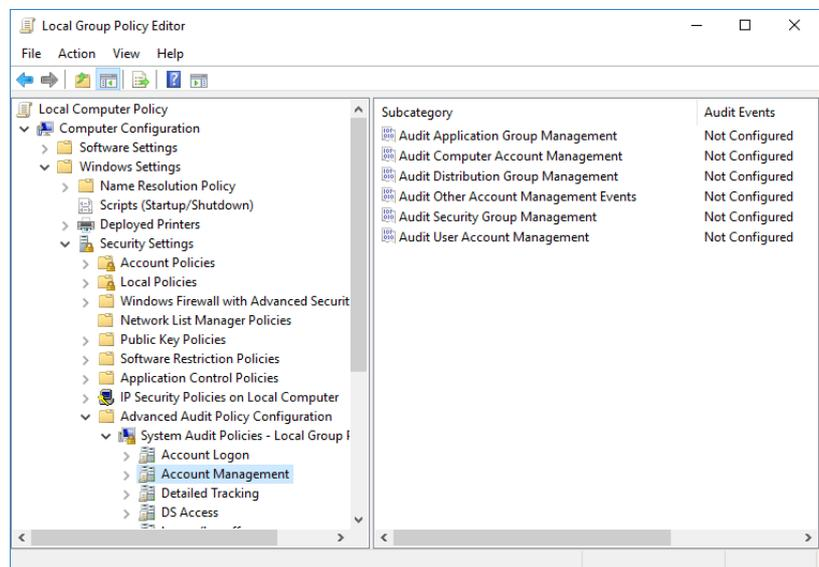

Figure 2-56. Expanded folder tree for System Audit Policies
3. In the **Local Group Policy Editor**, expand the folder tree under Computer Configuration, see Figure 2-56.